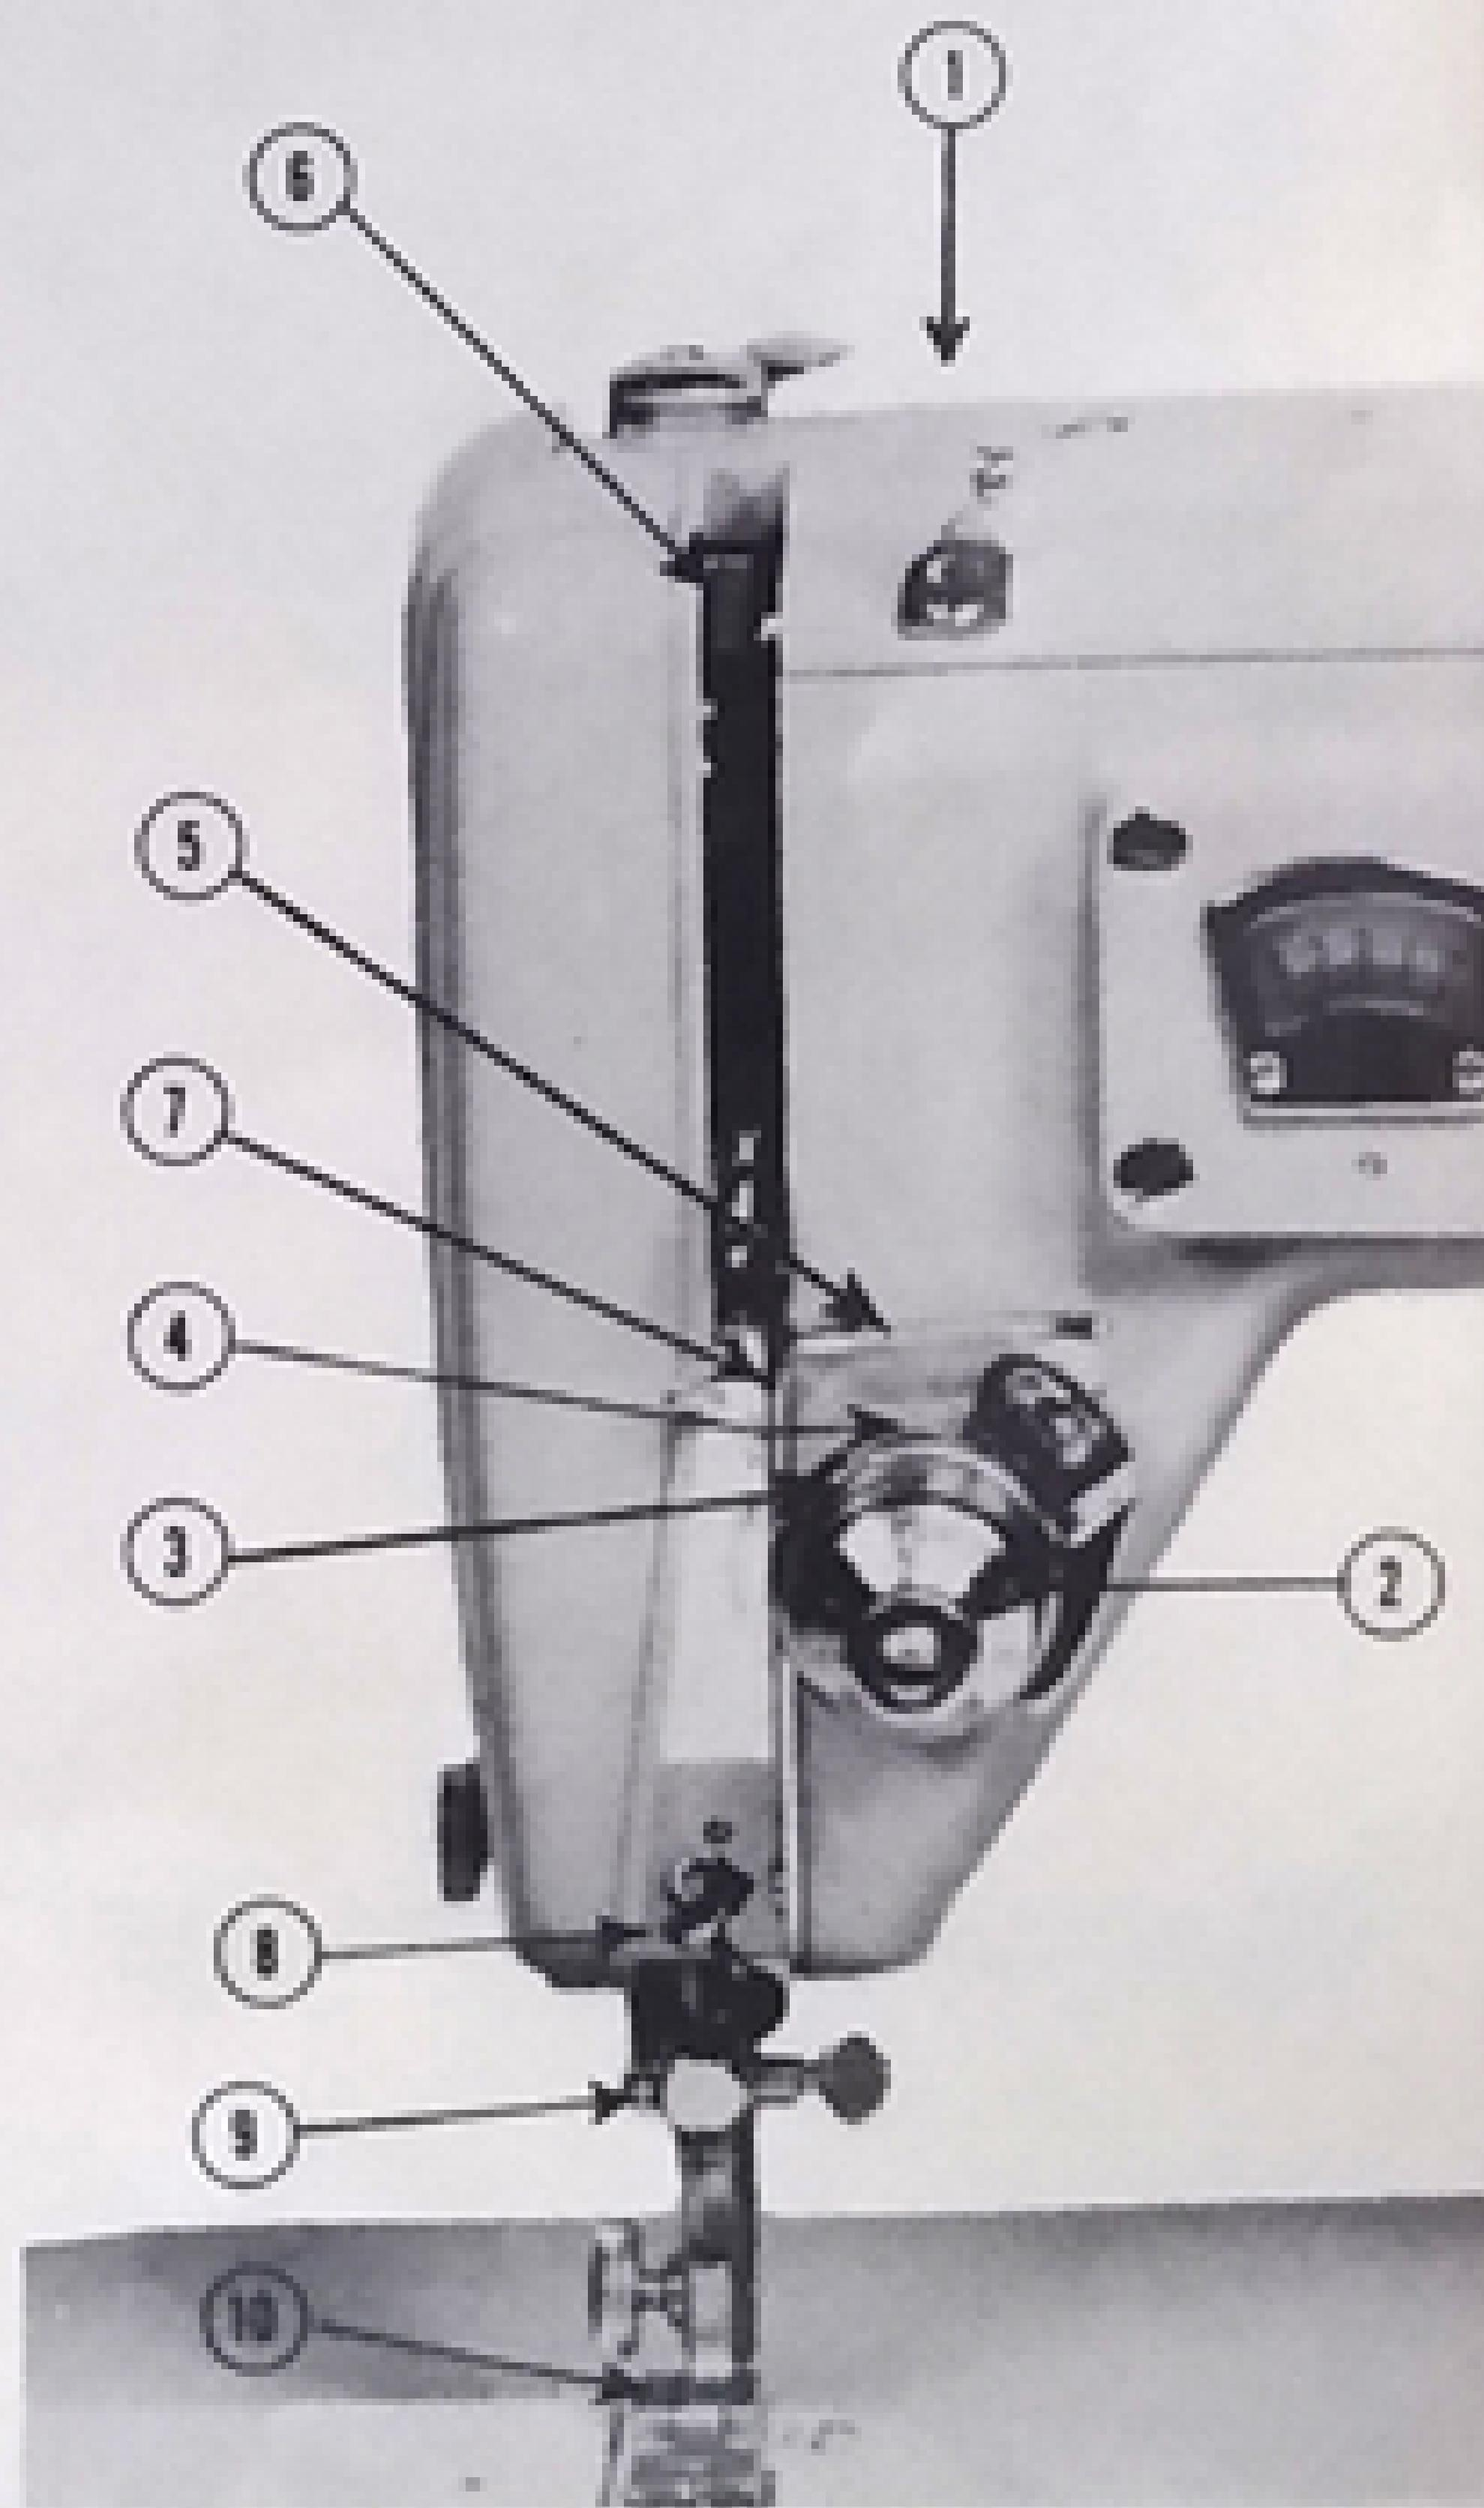

Fig. 9
1. Turn the balance wheel (24) by hand towards you until the take-up lever (6) is at its highest point, Fig. 9.
2. Place the spool of thread on the spool pin (29) on the top of the machine and pass the thread through the upper guide (1) and down between the tension discs (2) from the back on the right hand side, Fig. 9.
3. Now bring the thread up and under the thread check spring (3) raising it (the check spring) so that the thread will fall into the hook shaped guide (4).
4. Carry the thread under the thread guard bar (5) from right to left and then up to and into the eye of the thread take-up lever (6) from right to left and down through the thread guides (7), (8) and (9).
5. Now thread the needle (10) from the left to right and draw the thread out about 6 inches.